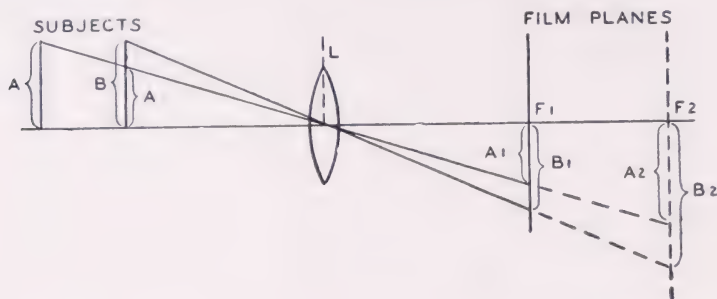

FIG. 41. ILLUSTRATING THE MEANING OF PHOTOGRAPHIC PERSPECTIVE
*Fig. 41* illustrates the meaning of photographic perspective. Two objects of the same size, *A* and *B*, are placed at different distances from the